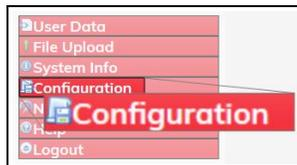

Figure 162: Configuration link
4. On the **Menu** list, click the **Configuration** link. Figure 162